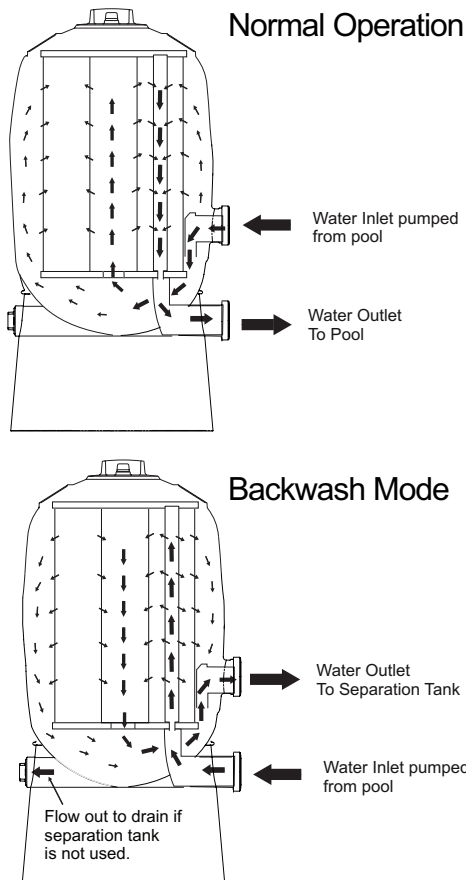

FIGURE 1B – Piping Connections
Piping (See Figure 1B for correct connections):
- For installation allowing backwashing, install Sta-Rite Two Position Slide Valve or Multiport Selector Valve with filter. See Table 3. If you intend to clean your filter according to “Module Cleaning Procedure”, Page 7, no slide or multi-port valve is required. See Figure 1B, Page 4, for correct water flow when connecting pipe.